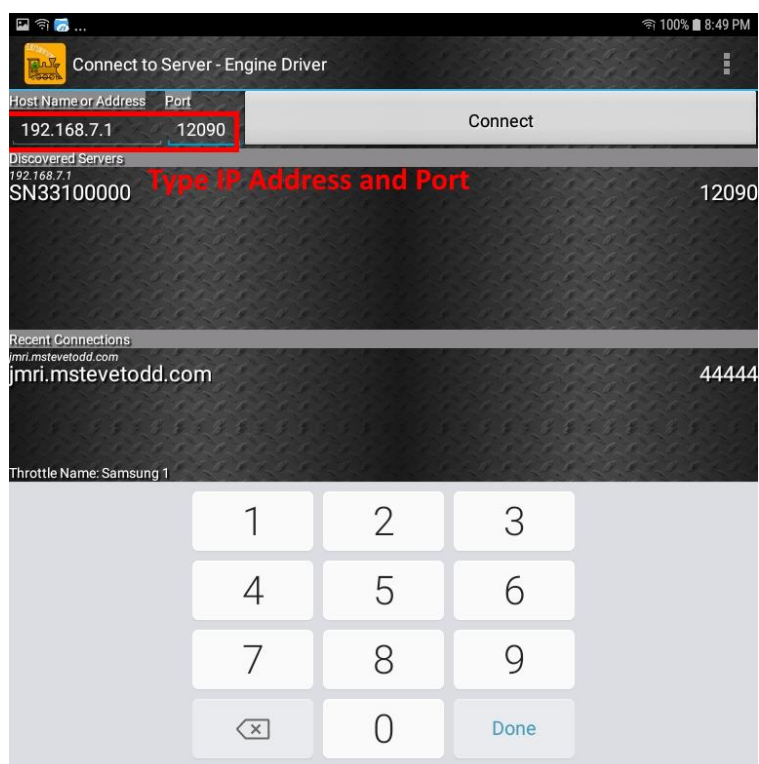

Figure 17 Connecting manually to the WDMI-27 WiThrottle Server
- (11) **Only if the WDMI-27 is not discovered** for some reason, after waiting a few moments, you must type the IP Address of the WDMI-27 module always 192.168.7.1 in the “Server Address” box at the top-left and the port value of 12090 in the port textbox as Figure 17, then tap the “Connect” button.